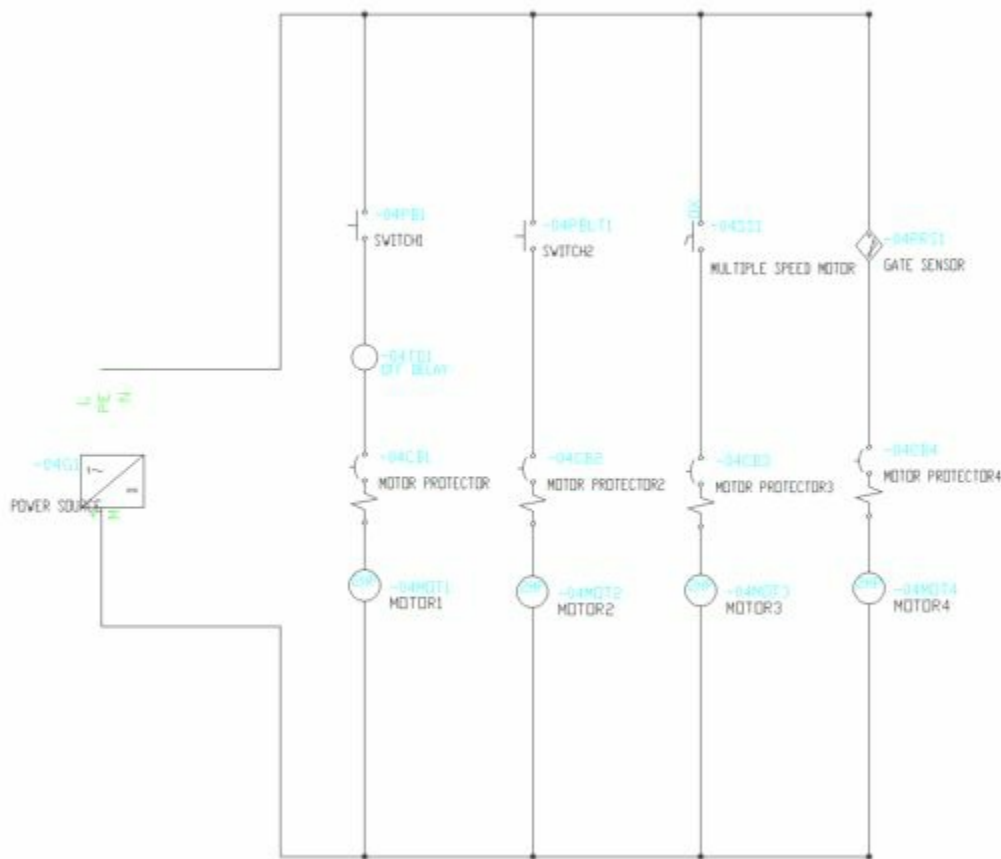

Figure-23. Project-Model
- Similarly add the other components in the schematic drawing; refer to Figure-23.